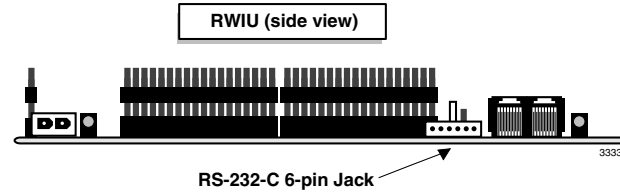

Figure 4-1 RWIU 6-pin Jack
- Run the RS-232-C cable to the back of the PC (COM port 1) and insert the 6-pin connector into the RWIU jack (see Figure 4-1).